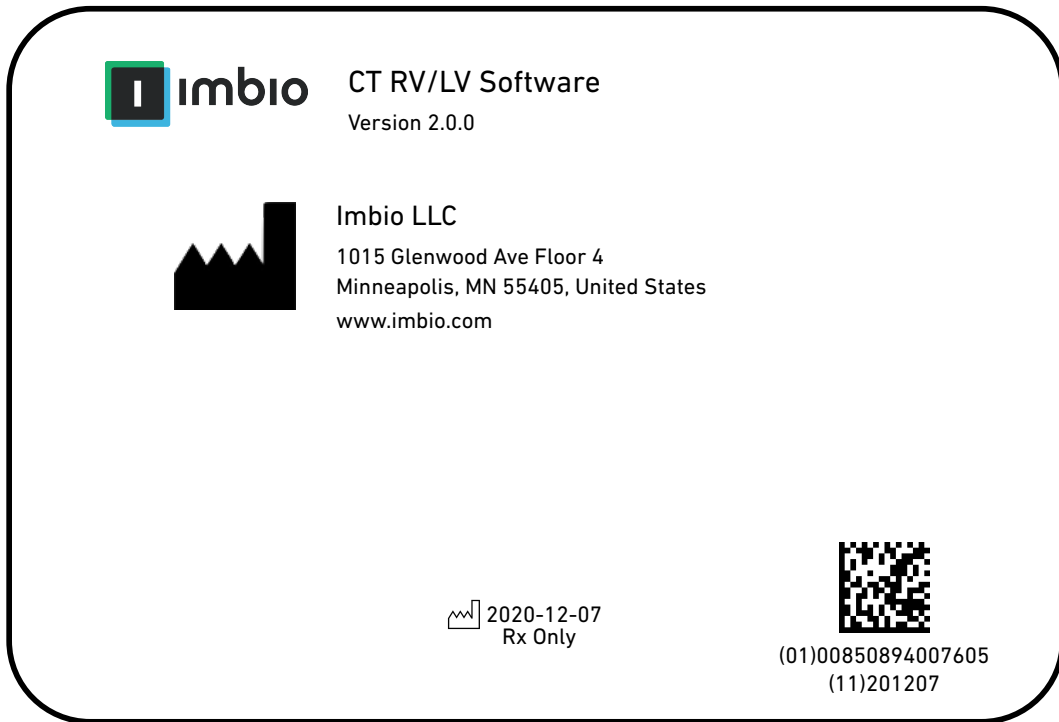

Figure 7: The interventricular septum has been identified incorrectly, leading to a poor segmentation.
3. Poor Septum Detection: This error can be identified by viewing the RV/LV Annotated Image Series or the Report. In Figure 7 below, the interventricular septum (green line) is poorly detected. The ventricular measurements are made perpendicular to the detected septum, so a poor septum detection can impact the final ventricular measurements and ratio.